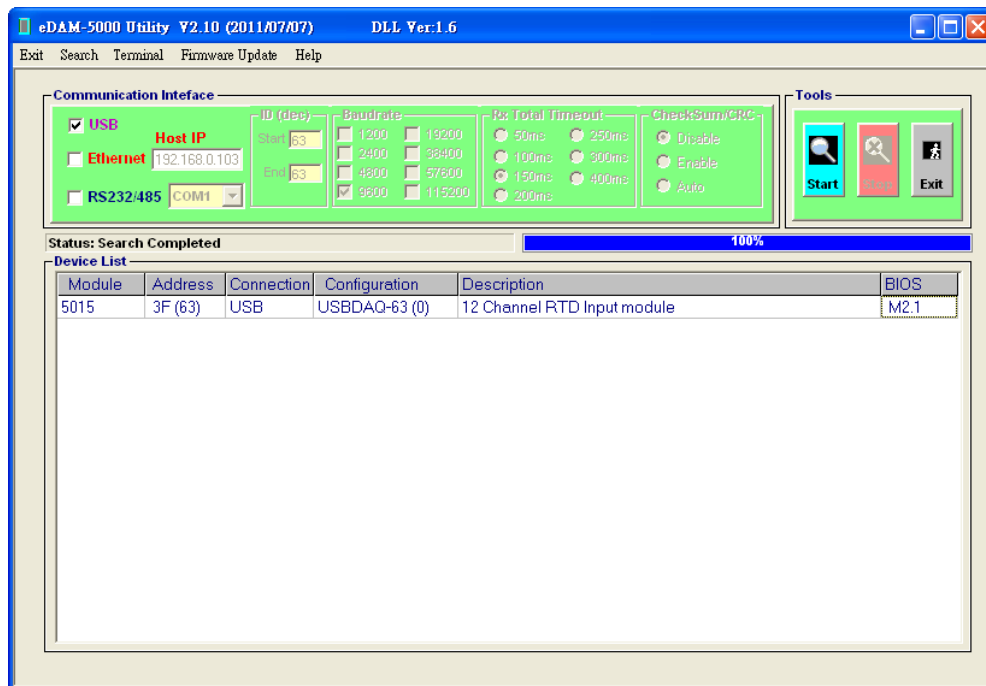

Figure -3
- Executes provided L-5000 utility called "E5KUtility.exe" (see Figure -3)